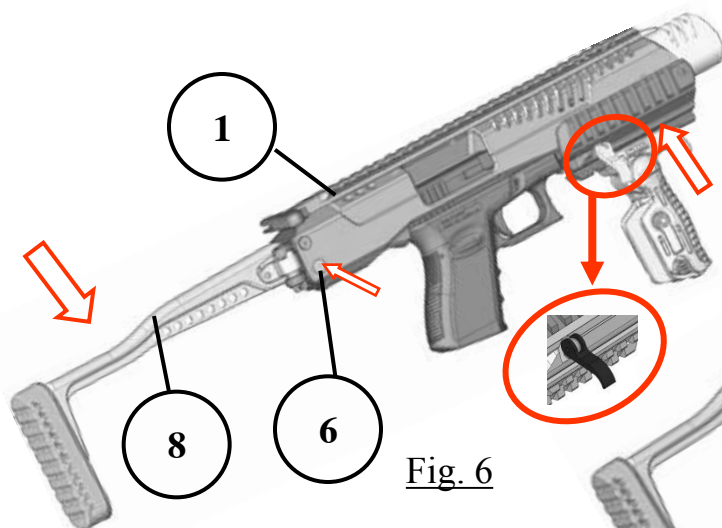

Fig. 6
Step 3. Push the Handguard (3) upwards until the pistol is positioned into the Receiver (1). Push the Buttstock (8) downwards and secure the system by inserting the Rear Locking Pin (6) back into place (Fig.6).